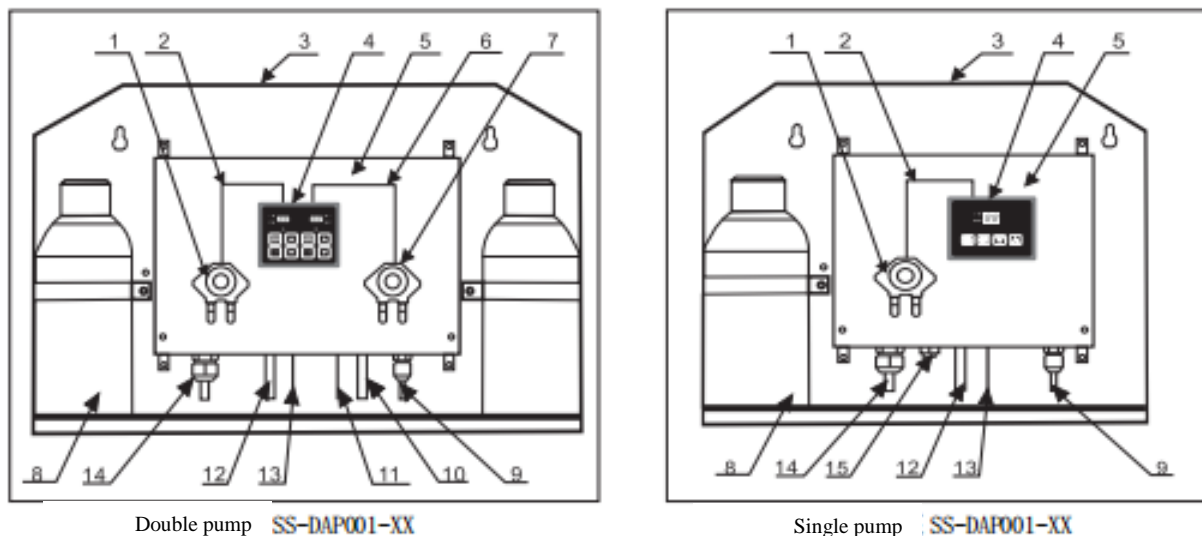

Figure 2: Configuration Diagram
3. Connect the other end of hose to the pneumatic switch interface on the aroma diffuser as shown in Figure 2 and Figure 7. It is best to add a little glue to the hose and interface.